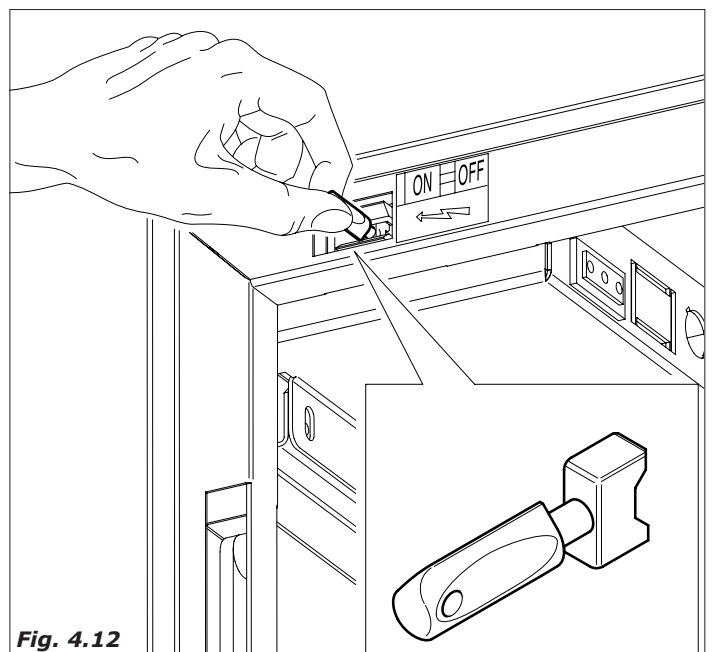

Fig. 4.12
It is possible for installation technician, to operate in this way, by inserting the special plastic key, supplied with the distributor, into the door switch and rotating it 90° (Fig.4.12).
- insert the key in the door switch (Fig.4.12)
- Insert the key in the door switch (see Fig.4.12) and wait until water flows out of the drain hose.